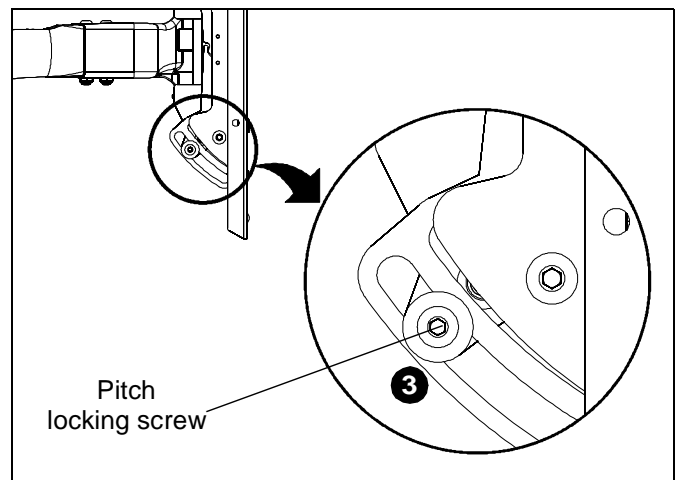

Figure 8
3. To lock the mount at the desired position, tighten the pitch locking screw. (See Figure 8)